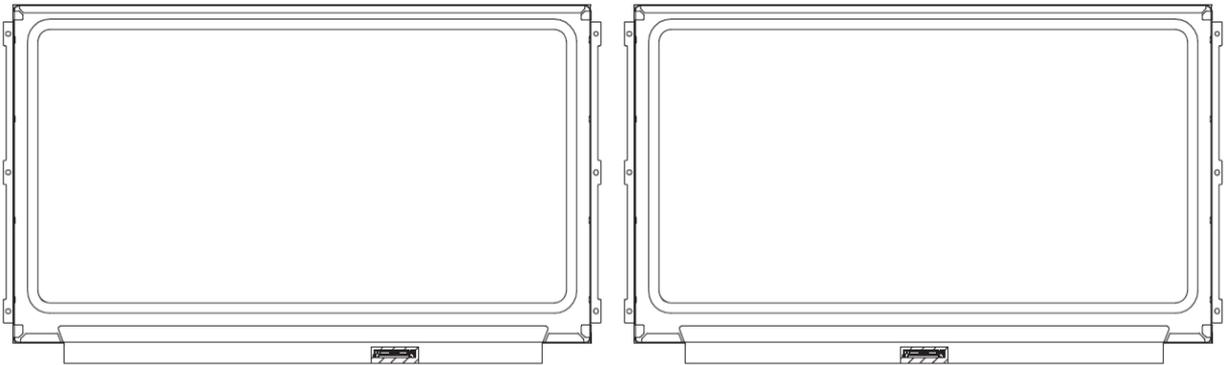

Figure 30. Offset (on the left) and centered (on the right) eDP connector
3. 30-pin eDP connector (the required position is shown in figure 30).